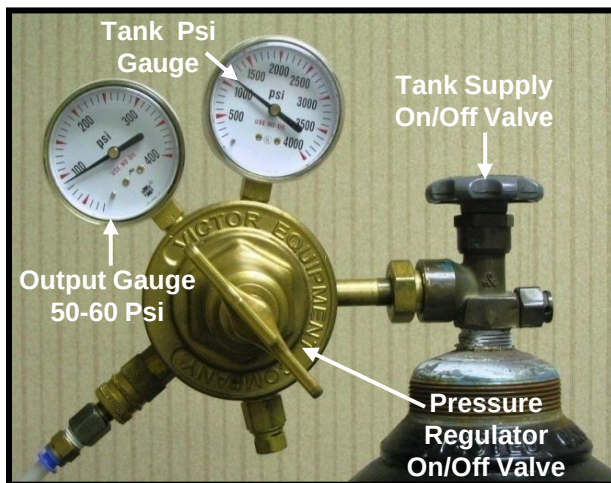

Figure 4
7.2.2 For tube span runs less than 500 feet in length, adjust Pressure Regulator Valve to supply something less than 60 psi Air Flow pressure to the tube span; suggest starting with 50, or 60 psi. Short tube span runs typically do not need high Air Flow Pressures to blow in the Fiber Bundle. Additionally, using lower pressures helps save the gas supply. **See Fig. 4.**
9.4 Adjust Air Flow Pressure During the Fiber Bundle installation, be prepared to increase / decrease Air Flow pressure by adjusting the Pressure Regulator Valve. Make all pressure adjustments in small increments (about 10 psi at a time). **Refer to Fig. 4.**